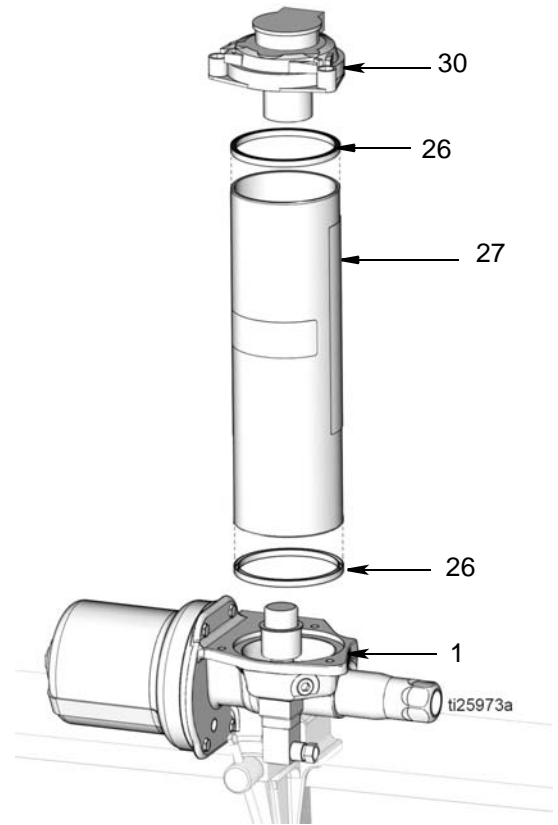

FIG. 15
11. Remove reservoir (27) from the pump base (1) (FIG. 15). If replacing reservoir gaskets (26), remove gaskets from reservoir. Dispose of gaskets according to all regulations for proper disposal.